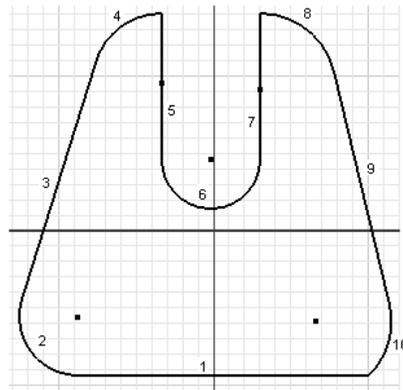

Figure 3-59 Profile with geometries numbered
- Start a new metric template and draw the outer loop of the sketch, refer to Figure 3-59.
- To draw the outer loop, invoke the **Line** tool from **Draw** panel in the **Sketch** tab, as shown in Figure 3-59.
*The outer loop that you created in the previous step might be different from the one shown in Figure 3-59. You can find the missing constraints by following the next step and apply constraints accordingly.*
As evident from Figure 3-59, some of the constraints such as tangent and equal are missing in the sketch. The sketch shown in Figure 3-59 may not be symmetrical and all the lines in the sketch may not be tangent to the arcs. Therefore, you need to add these missing constraints manually to the sketch to complete it. You can choose the **Show Constraint** option from the Marking menu that is displayed when you right-click on an entity.
1. In Figure 3-59, the **Tangent** constraint is missing between line 1 and arc 10. To add this constraint between the line and the arc, choose the **Tangent** tool from the **Constrain** panel of the **Sketch** tab; you are prompted to select the first curve. Select arc 10 as the first curve; you are prompted to select the second curve. Select line 1 as the second curve. Similarly, add this constraint to all places in the sketch wherever it is missing.